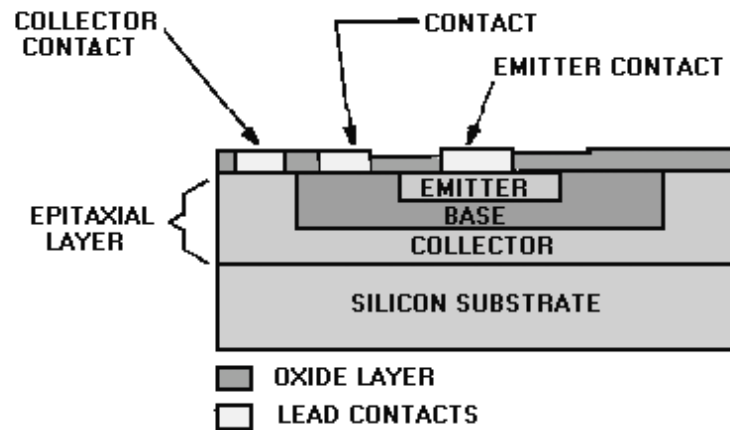

Figure 1-13.—Planar-epitaxial transistor.
**EPITAXIAL METHOD.**—The EPITAXIAL process involves depositing a very thin layer of silicon to form a uniformly doped crystalline region (epitaxial layer) on the substrate. Components are produced by diffusing appropriate materials into the epitaxial layer in the same way as the planar-diffusion method. When planar-diffusion and epitaxial techniques are combined, the component characteristics are improved because of the uniformity of doping in the epitaxial layer. A cross section of a typical planar-epitaxial transistor is shown in figure 1-13. Note that the component parts do not penetrate the substrate as they did in the planar-diffused transistor.